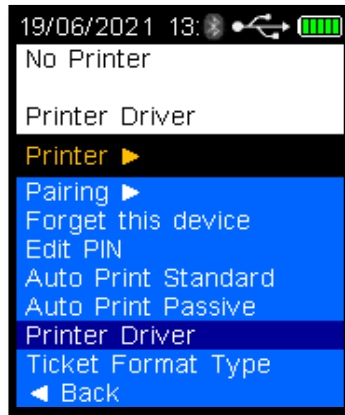

Figure 87 Printer Driver Displayed
- Press the down button to scroll down to Printer Driver (Refer Figure 87).